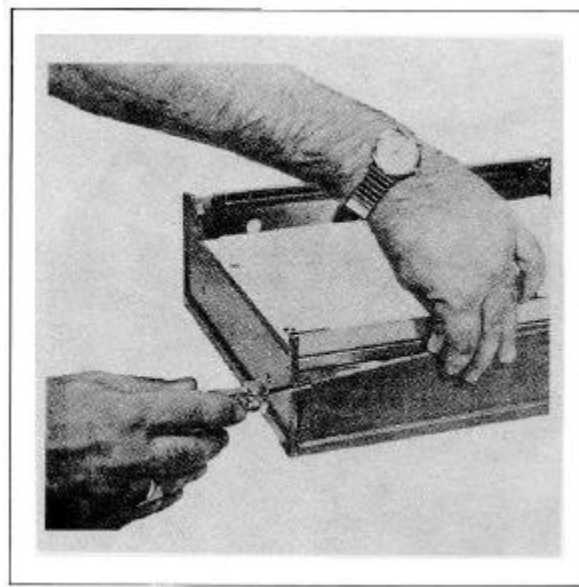

FIGURE 5-4. SIDE PANEL REMOVAL
f. Side Panel - Remove bottom cover. Carefully insert small, sharp, slot type screwdriver behind upper edge of panel and gently pry outward. Panel free (see Figure 5-4). Progressively pull upper edge free, working from one end to other until panel pops off. To install, hook upper edge of side panel over top of frame or into groove. Swing lower edge of panel toward bottom of recorder. Force past outer surface. Snap into place.